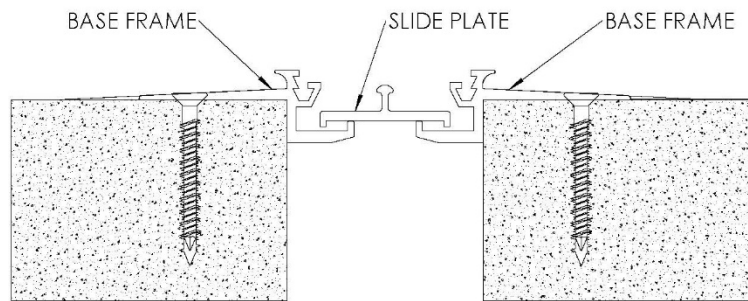

FIGURE 2
2. Place slide plate (not required on 1" joint sizes) in the lower channels of the base frames with the bent ends of the plate pointing downwards. **See Figure 2**